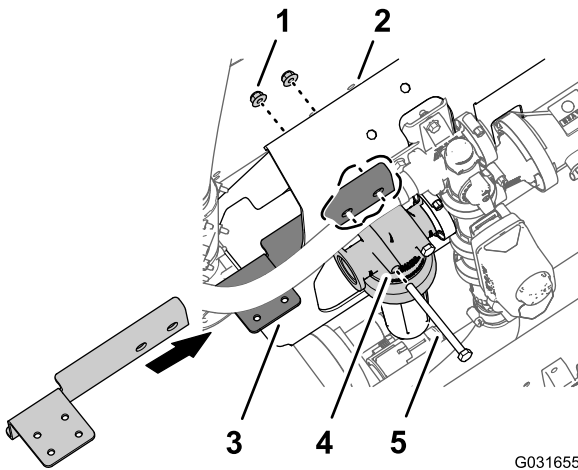

Figure 222
4. Remove the 2 flange locknuts (5/16 inch) that secure the filter head to the manifold mount (Figure 222).
5. Align the holes in the long flange of shutoff-valve mount (Toro Part No. 131-3725-03) to the 2 bolt (5/16 x 4 inches) at the front side of the manifold mount (Figure 222).
6. Attach the shutoff-valve mount to the manifold mount and bolts with 2 flange locknut that you removed in step 4 (Figure 222).